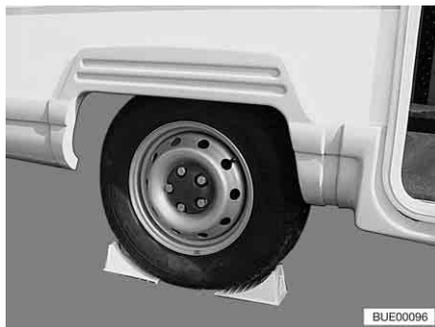

Fig. 274 Securing vehicle
- Place wheel chocks or other appropriate objects beneath the opposite wheel of the vehicle to secure it (Fig. 274).